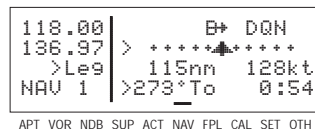

Figure 4-43
4. Press **ENT** to approve the Direct To. The NAV 1 page will be displayed (figure 4-43) reflecting the new active waypoint.